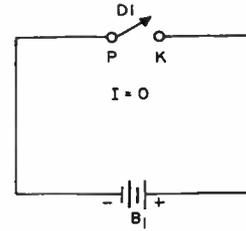

FIGURE 2
- (a) one direction only. -- Electrons cannot flow in the direction urged by battery  $B_1$  in Figure 2 because the diode is then an open circuit.